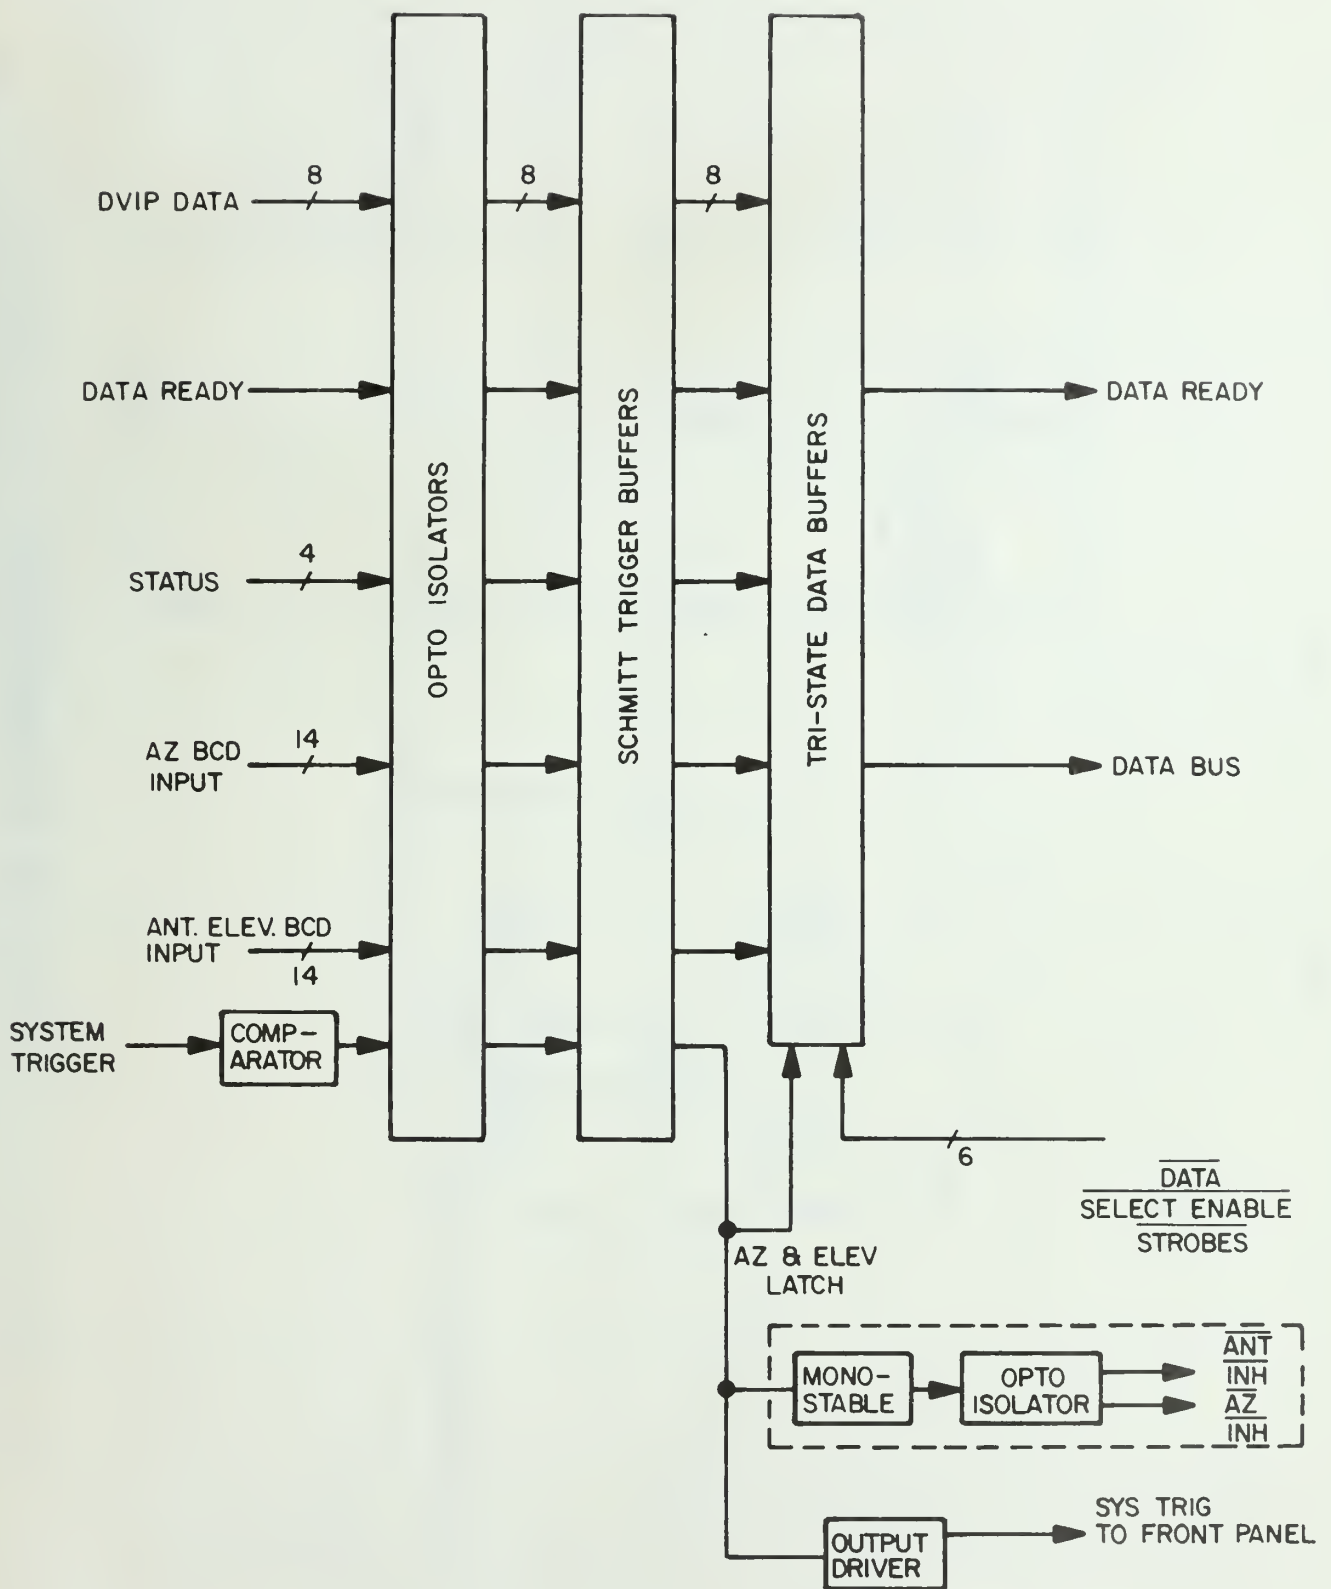

Figure 2-9. Input Buffer CCA N1A2A9, Block Diagram
### **2.3.10 Input Buffer CCA N1A2A9 Functioning. (See figure 2-9)**
**2.3.10.1** The block diagram for the input buffer CCA is shown in figure 2-9. As shown, the input buffer CCA comprises the opto isolator section, schmitt trigger inverters, tri-state data buffers and driver circuits.